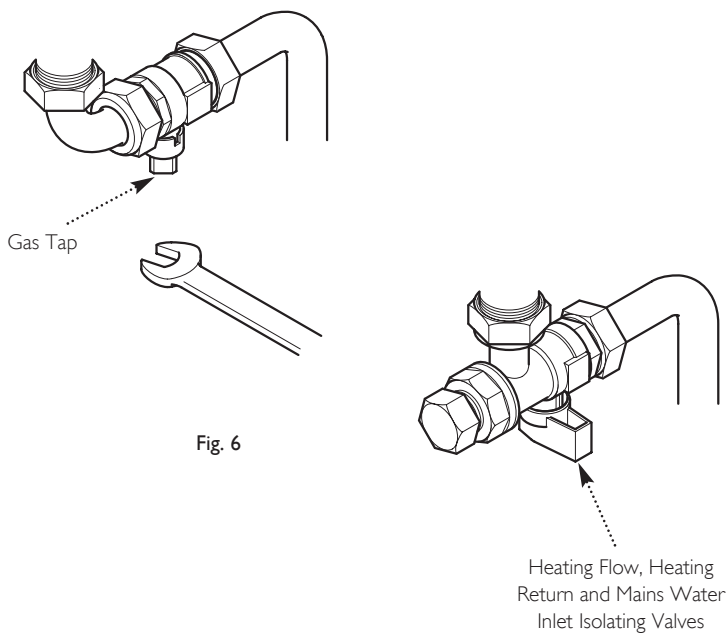

Fig. 6
1. Using a suitable open ended spanner, turn the square nut on the gas tap through 90° (1/4 turn) to isolate the gas supply at the boiler (Fig. 6).
3. The water isolating valves are positioned under the boiler and can be closed by turning their taps to the right towards the wall (Fig. 6).